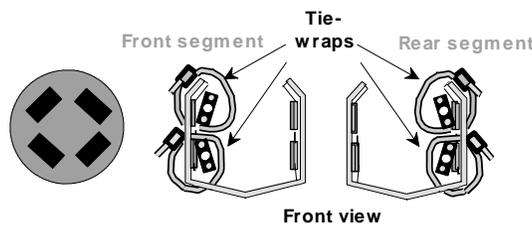

Figure 15
- 14.10** Secure the drop cable(s) to the retention bracket with the opening ¼-inch passed the bracket edge. See **Figure 15**.